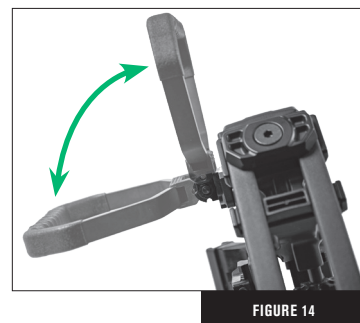

FIGURE 14
- Rotate the folding stirrup to either the down position or the full concealed position (Fig. 14).